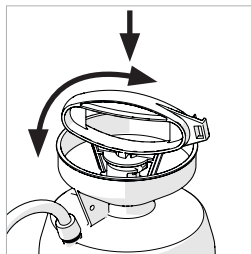

Fig. 1
- Press down and turn the handle until it is in the middle position to unlock the handle. **(Fig. 1)**